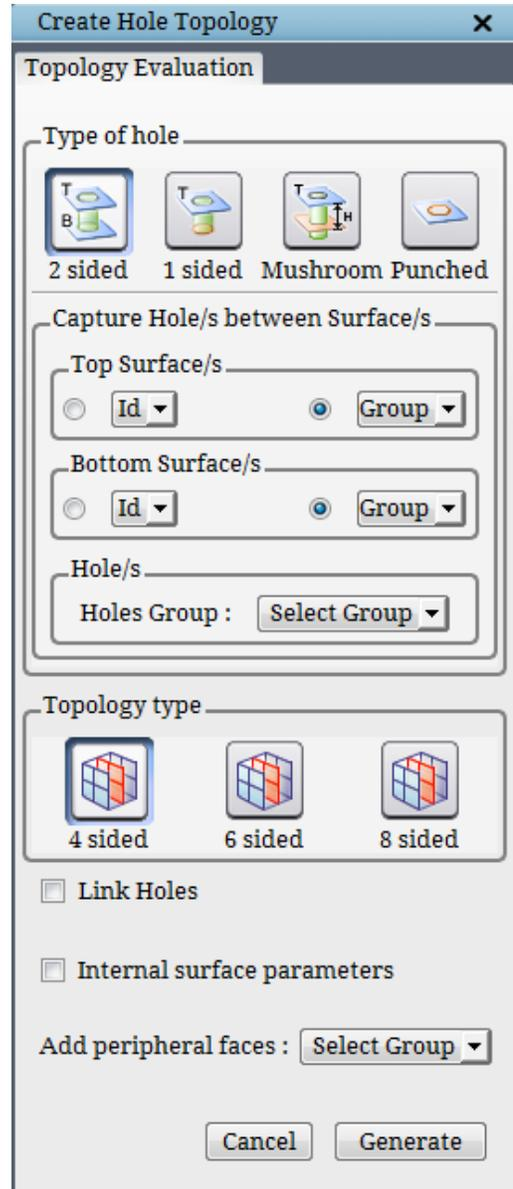
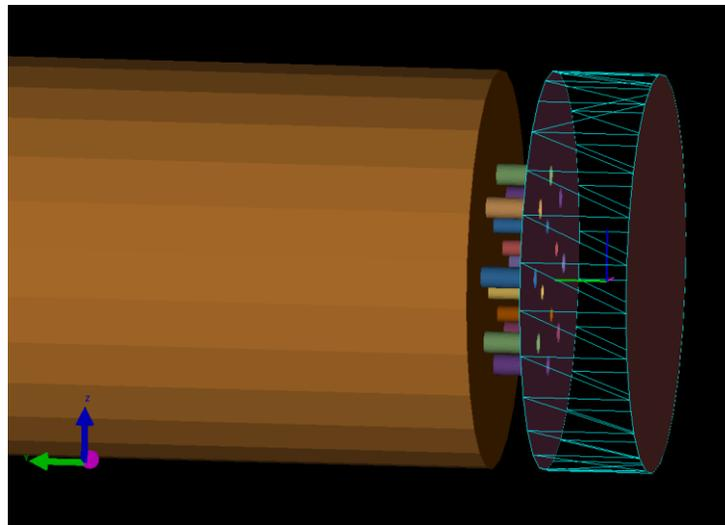

Figure 4.46: Hole topology dialog box
Figure 4.52: Injector Surfaces
**Holes** or **Hole topology** helps in creating topology and internal surfaces automatically. For. E.g. Consider an injector which has many pipes connecting two surfaces as shown in Figure 4.52. In such cases, topology has to be built individually for each pipe using insert and wrap. In order to ease this process, you can automatically create an individual topology for each pipes using Holes command. Clicking on **Holes** will open the dialog box as shown in Figure 4.46.